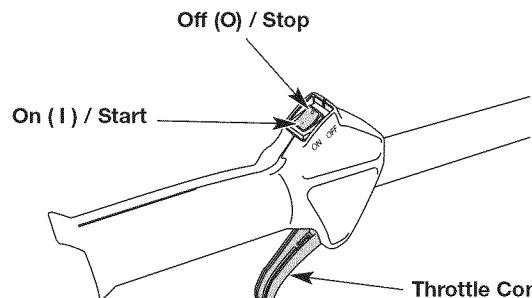
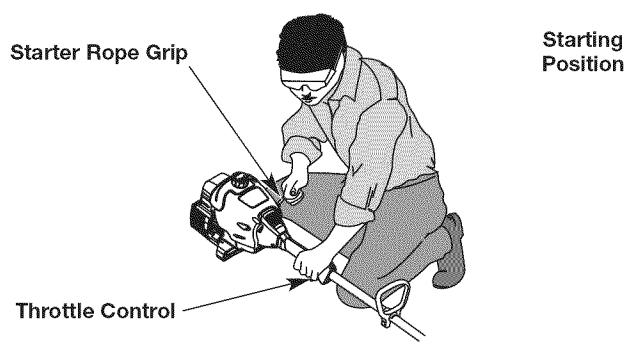

Fig. 6
Fig. 8
WARNING: Avoid accidentally starting the unit. To avoid serious injury, the operator and the unit must be in a stable position when pulling the starter rope (Fig. 8).
- NOTE:** There is no need to turn the unit on. The On/Off switch is in the ON (I) position at all times (Fig. 6).
5. Crouch in the starting position (Fig. 8).
6. Squeeze the throttle control (Fig. 6) and pull the starter rope with a controlled and steady motion **5 times** (Fig. 8).
2. Press and hold the On/Off switch in the OFF (O) position until the engine comes to a complete stop (Fig. 6).